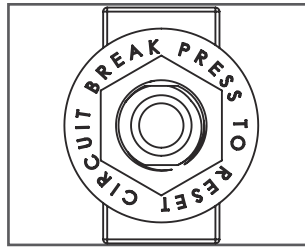

Figure 23
- If the power signal is not available when the power button on the controller is pressed, confirm whether the power switch on the battery box is at the "I" position; if it is at the "O" position, press the power switch on the battery box to the "I" position; then, if the power signal is still not available for the power button on the controller, the current may be too large and the overload protector has cut off the power automatically. After the problem is eliminated, press the button to reset manually (see Figure 23).